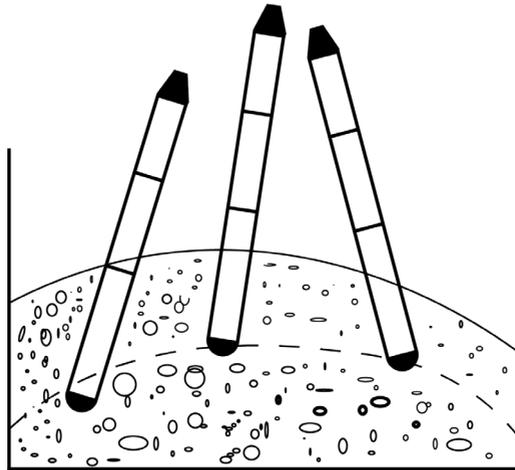

Figure 5
- Do not use the vibrating bottle to transport the concrete. As the concrete vibrator is not a "concrete transport vehicle", Figure 5 shows how this should not be done.